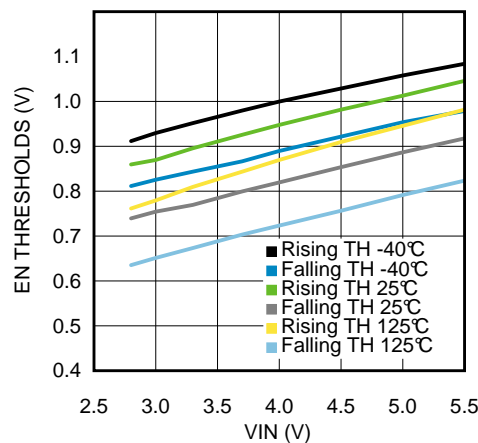

Figure 35. Enable Rising And Falling Thresholds vs.  $V_{IN}$
The LMR70503 features an enable (EN) pin and associated comparator to allow the user to easily sequence the LMR70503 from an external voltage rail, or to manually set the input UVLO threshold. Enable threshold levels are referred to the LMR70503 ground, instead of the lowest potential: the negative output voltage. Enable turning on (rising) and turning off (falling) thresholds are shown in Figure 35.